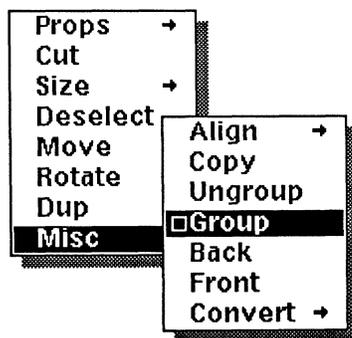

Figure 20-17. Group command on the Misc submenu
- by creating the objects and then grouping them using the **Group** command on the Misc submenu of the Object Selected popup menu (Figure 20-17)